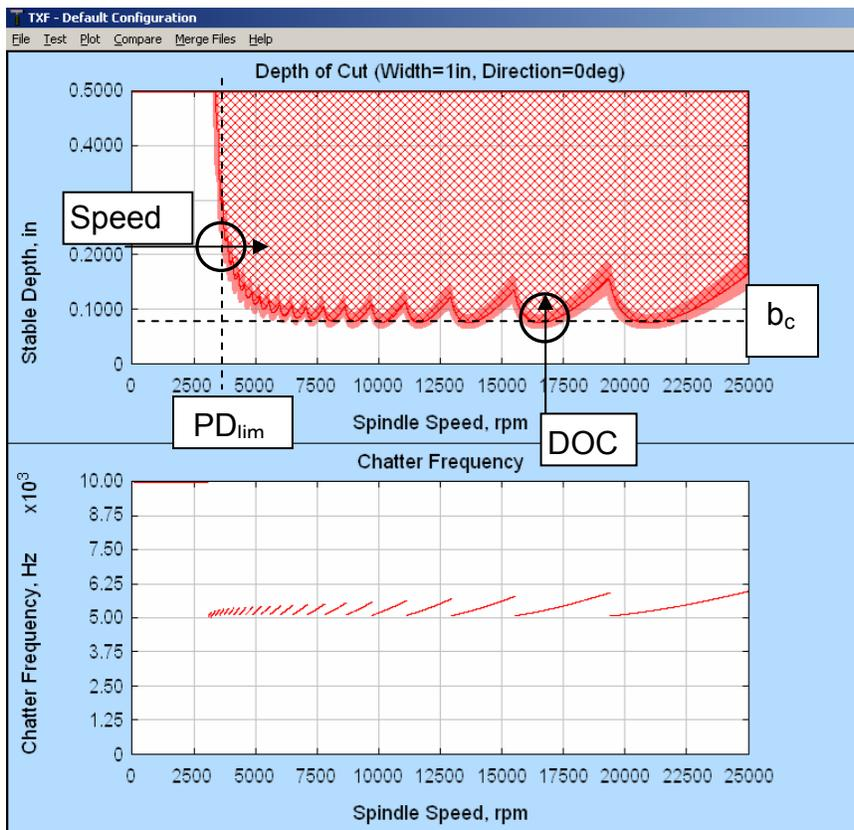

Figure 72: Stability Lobe Diagram
In the procedural description we will refer to the general stability graph in Figure 72.
- At some high speed select a “worst” case spindle speed (~16250 rpm in Figure 72). This spindle speed corresponds to the bottom of a lobe, (i.e. a depth of cut that produces a critical limit value ( $b_{cr}$ ) from the stability chart).
So for the example in Figure 72 you would start at a depth of cut of 0.04” or 0.06” and then increment in steps of 0.01”.
- Evaluate at what spindle speed the depth of cut asymptotically rises to a maximum, labeled  $PD_{lim}$  (on the left side of the graph in Figure 72). Use  $\frac{1}{4}$  to  $\frac{1}{2}$  of this speed as the starting speed. For DOC use 2 times the limit value that was found in the DOC tests.
So for the example in Figure 72,  $PD_{lim}$  is at 3750 rpm so you would start at 1875 rpm. The depth of cut would be between 0.16” and 0.2”. You would increment your spindle speed by 10 rpm for each cut, yielding 3750, 3790, 3830, 3870, etc until you get chatter.